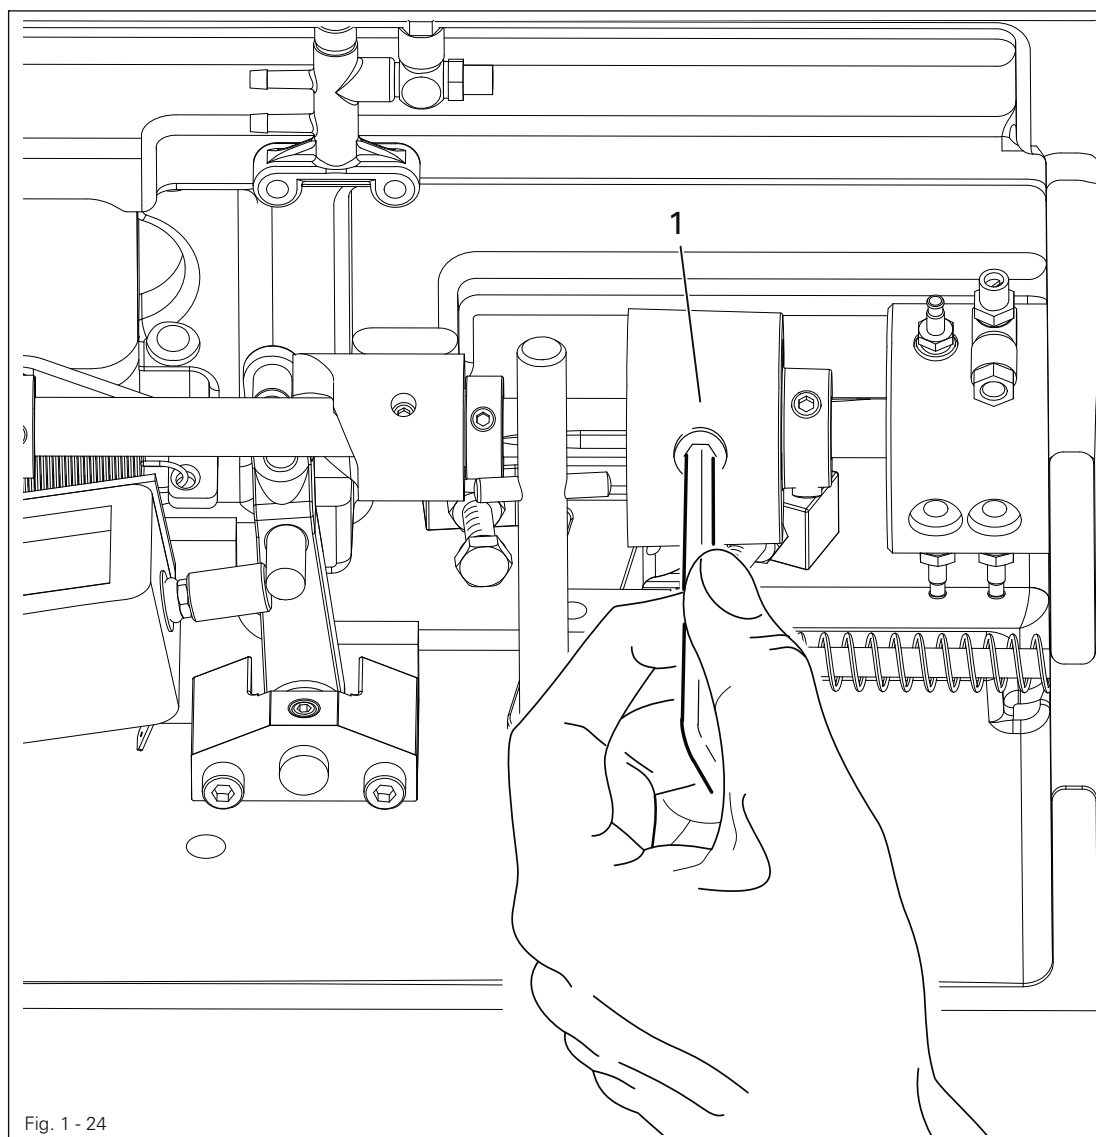

Fig. 1 - 24
- Hold clutch 1 firmly, as shown in Fig. 1 - 19, and turn the balance wheel until clutch 1 re-engages.